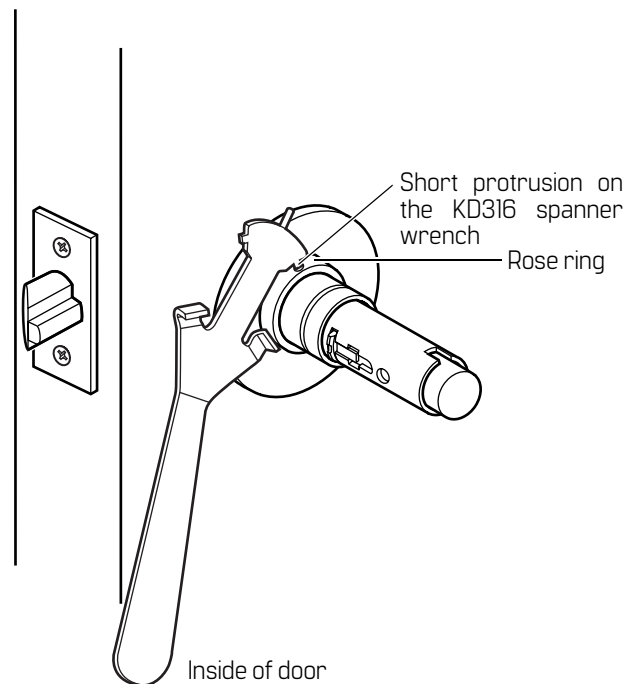

Figure 3.7 Removing the inside rose ring with the KD316 spanner wrench
- Insert the short protrusion on the KD316 spanner wrench into the hole on the rose ring and rotate it until you can remove the rose ring, as shown in Figure 3.7.